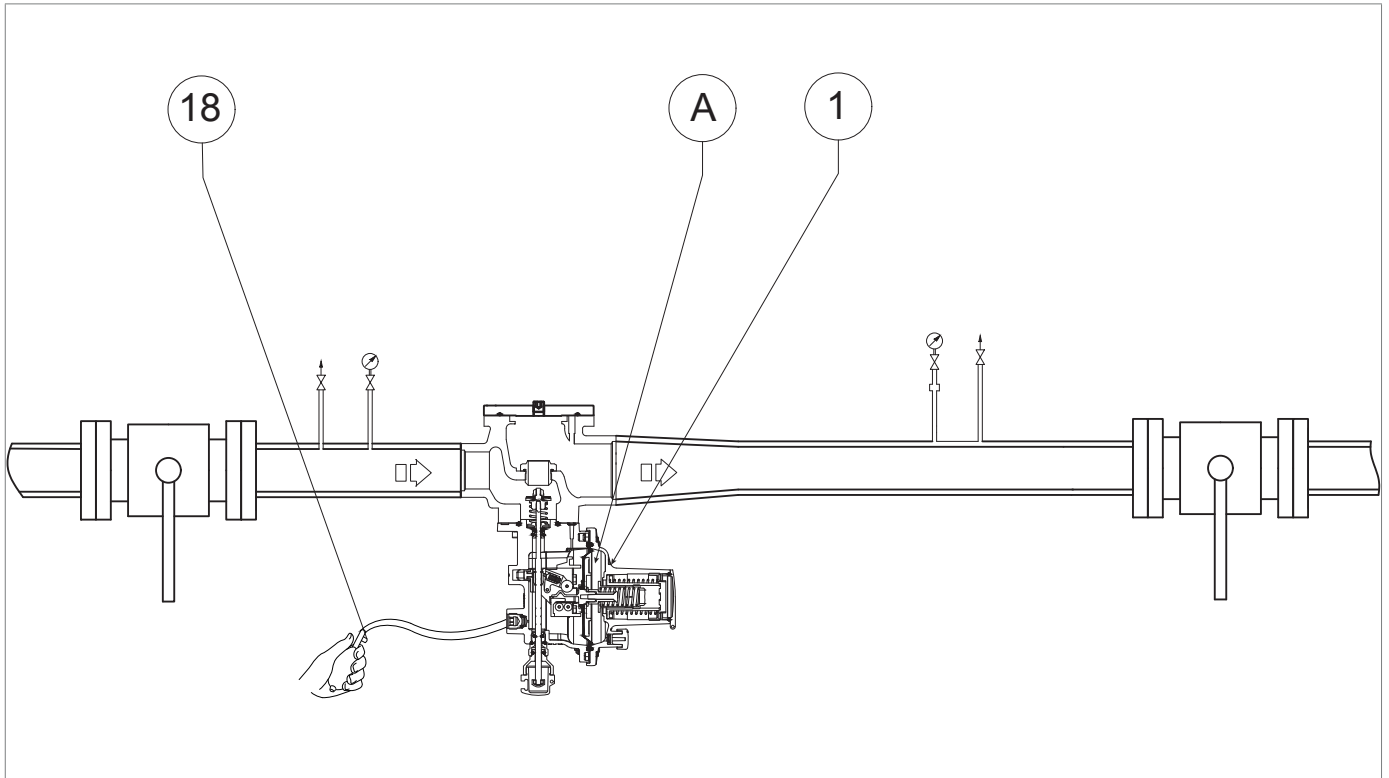

Fig. 8.16. External source pressurisation DILOCK individually installed
1	<p>Increase the pressure in the pressure switch body (C) to check that it is correctly calibrated, using an external pressure source (Fig. 8.16).</p> <div style="border: 1px solid blue; padding: 5px;"> <p>! NOTICE!</p> <p>Check the pressure referring to the downstream pressure gauge (Fig. 8.14, ref. 5).</p> <p>If the slam-shut valve:</p> <ul style="list-style-type: none"> <li>• trips before the expected pressure value: screw in (clockwise) the adjustment ring nut (13) so as to further compress the spring (11);</li> <li>• does not trip at the expected pressure value: unscrew (anti-clockwise) the adjustment ring nut (13) so as to relieve the spring (11).</li> </ul> </div>
5	To reset the slam-shut valve, increase the downstream pressure (Pd) of the line, using an external pressure source (Fig. 8.16).